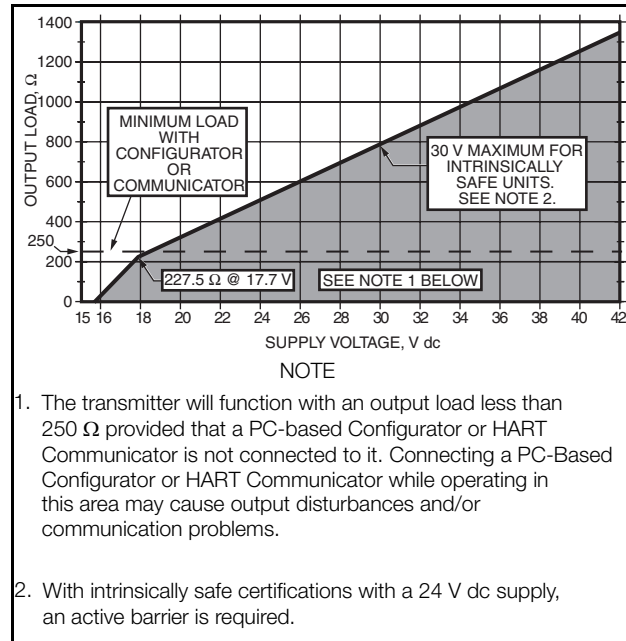

Figure 3. Supply Voltage vs Output Load for 4 to 20 mA Output
15.5 to 42 V dc, depending on electrical safety approvals and certifications. Refer to Figure 3.